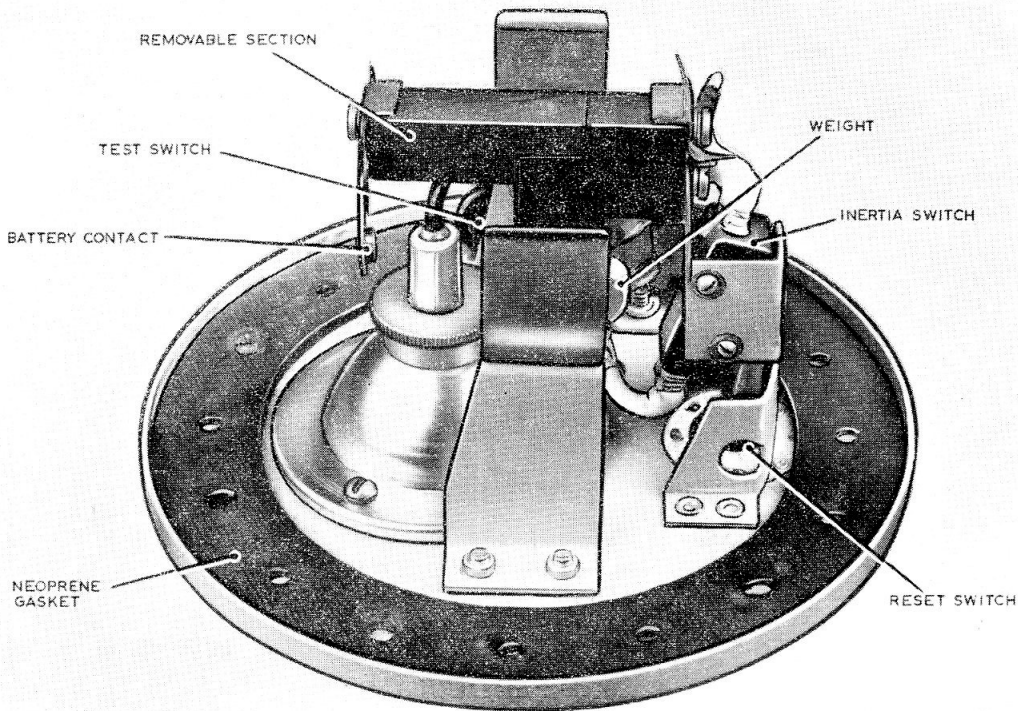

Fig. 2. Internal view with batteries removed
2. A general view is given in fig. 1, and a view with the rear cover and batteries removed is given in fig. 2. Made mainly from aluminium alloy, it consists of a lamp and reflector housing which incorporates a plastic focussing lens, two 1½V leakproof dry batteries, a test switch, a reset switch, and an inertia switch.